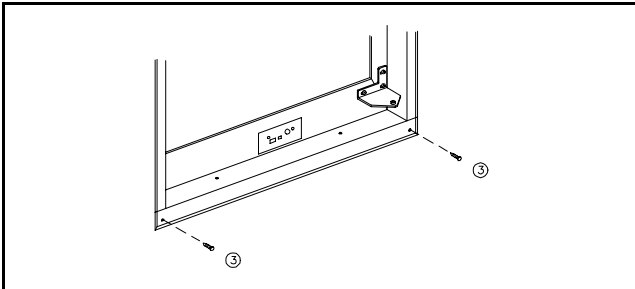

Figure 5
2. Once the lower flange is slipped around the hinge, the part will swing into place as shown in Figure 5.